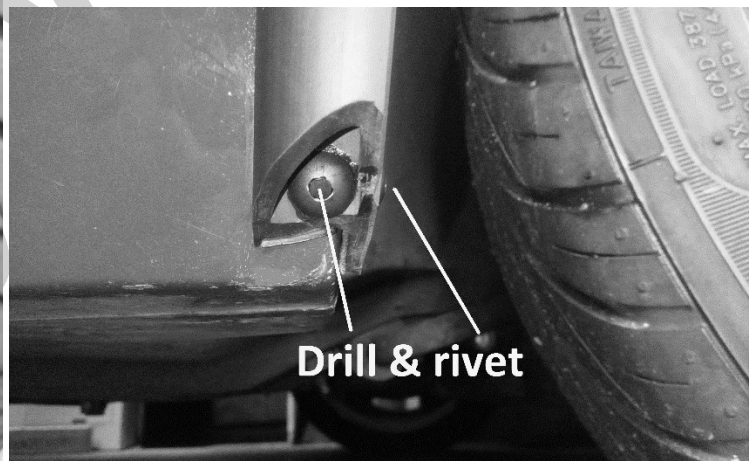

FIG 4
- 4.4 The supplied plastic rivets are also an option if you require a more permanent fixing method or if the extensions are to be used in arduous conditions such as off-road. If using the supplied rivets, use a 5mm drill bit to drill through the upper and / or lower bonding faces as close to the ends as possible into the vehicle bodywork, then secure each end of the extensions using the supplied plastic rivets (FIG 4), treating any bare metal produced from drilling prior to installing any rivets will help prevent future rusting, extra rivets are included in case any other part of the extension may require additional fixing.